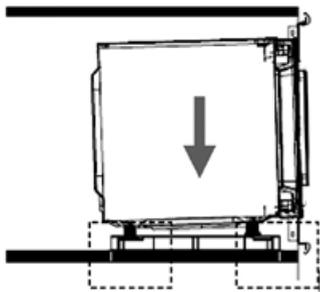

Fig. 4
5. Put the unit in the box, so that the feet fit in the hollows of the strips (Fig. 4).